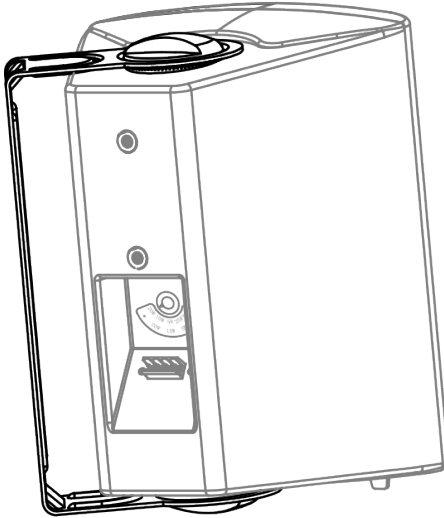

Figure 3: SPK-W511T with Brackets Connected
4. Align the bracket screw holes (upper and lower) to those on the speaker and screw a knob to each of the holes to secure the speaker to the bracket (see Figure 3).